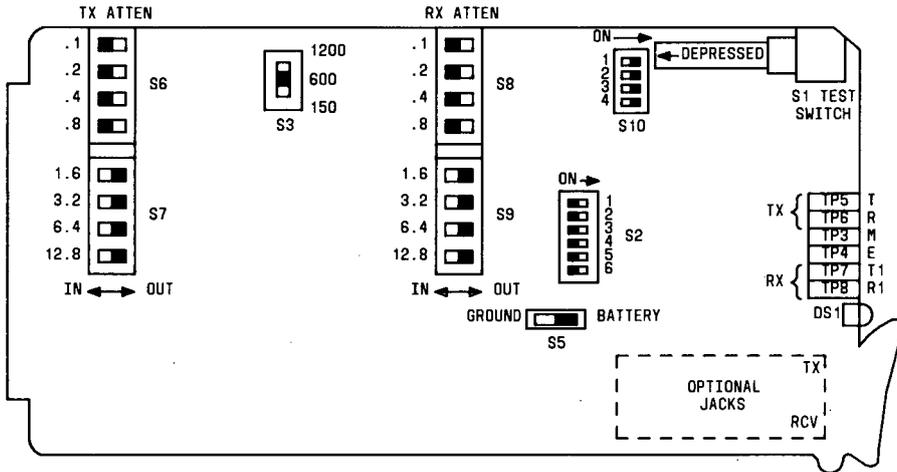

Figure 91. 30044-002 4-Wire E&M Channel Unit Switch Locations
- b. For No. 30044-002 (Figure 91), connect a dB meter (600-ohm bridged) to TP7 and TP8. From a distant end transmitter, transmit a 1004-Hz signal at the proper system level. Set the switches on S8 and S9 to achieve the proper system level.